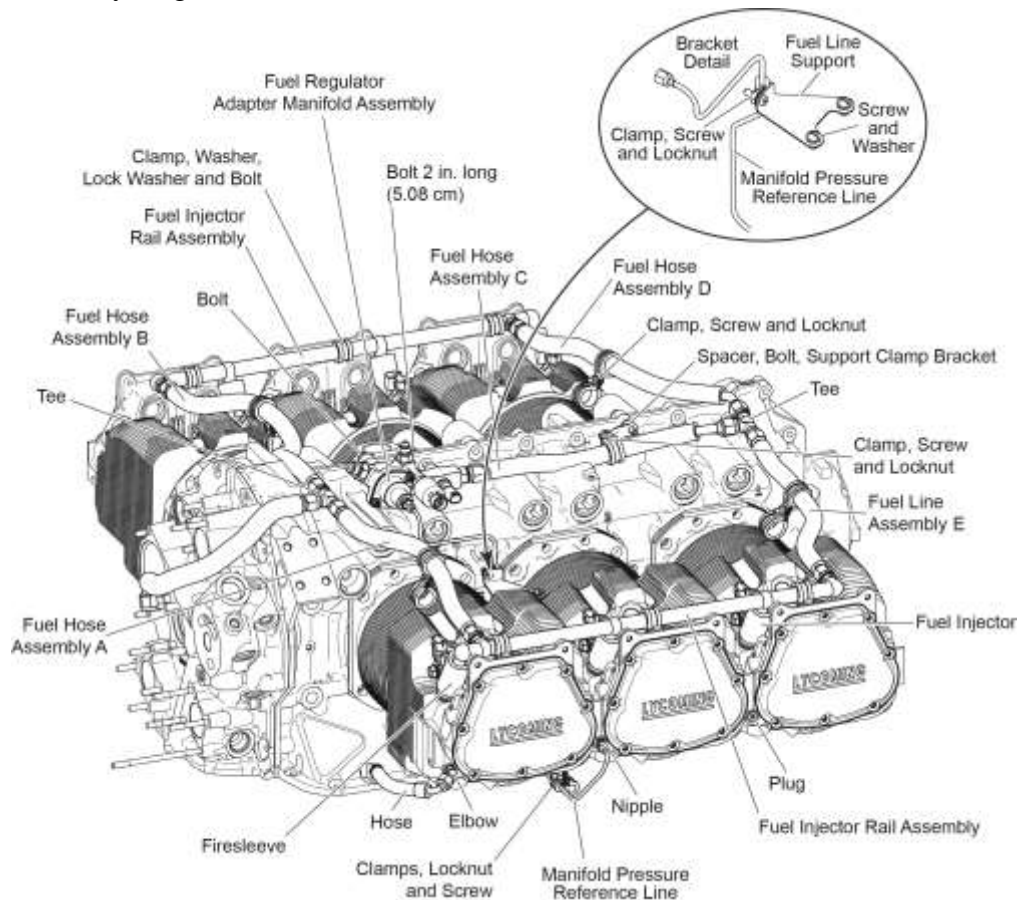

Figure 7
NOTICE: Fuel hoses are identified as A, B, C, D, and E in Figure 7
NOTICE: As shown in Figure 7, there are two fuel injector rail assemblies, one on each side of the engine. Each fuel injector rail assembly is attached to fuel hoses and the fuel injectors on the three engine cylinders on each side of the engine.
- (1) Remove the harness connector from all three fuel injectors on the affected fuel injector rail assembly.
- (2) Remove the screw and lock nut from each of the two clamps that attach the wiring harness to the fuel injector rail assembly. Discard the lock nuts.
- (3) Move the wiring harness so it does not interfere with fuel injector rail assembly removal.
- (4) Put a fuel collection container under the side of the engine where the fuel injector rail assembly (Figure 7) is to be removed.
- (5) Loosen the cap on the fuel pressure regulator bleed port to release pressure from the fuel hoses.
- (6) Disconnect the two fuel hoses (identified as A and E or B and D in Figure 7) from the fuel injector rail assembly coupling at each end of the fuel injector rail assembly to be removed.
- (6) Install the fuel injector rail with the fuel injectors installed (Figure 7) on the engine with the fuel injectors installed in the fuel injector adapters.
- (7) Torque the coupling on each end of the fuel injector rail in accordance with the Standard Torque Tables in the latest revision of the *Service Table of Limits - SSP-1776*.
- (8) Install the clamps on the fuel injector rail each with a bolt, washer, and new lock washer. Torque the bolts in accordance with the Standard Torque Tables in the latest revision of the *Service Table of Limits - SSP-1776*.
- (9) Connect the fuel hoses (A and E or B and D in Figure 7) to the fuel injector rail coupling at each end of the fuel injector rail. Torque in accordance with the Standard Torque Tables in the latest revision of the *Service Table of Limits - SSP-1776*.
- (10) Attach the each of the three fuel injector harness connectors to applicable fuel injectors.
- (11) Attach the wiring harness to the fuel injector rail with the two clamps, screws, and new lock nuts. Torque the lock nuts in accordance with the Standard Torque Tables in the latest revision of the *Service Table of Limits - SSP-1776*.
- (12) Install and tighten the bleed cap on the fuel pressure regulator bleed port.
- (13) Look for any fuel leaks. Identify and correct the cause of any fuel leaks. There must not be any leaks. All fuel connections must be secure and torqued in accordance with the Standard Torque Tables in the latest revision of the *Service Table of Limits - SSP-1776*.
- (14) If leaks or malfunctions were found and corrected, operate the engine again to make sure it is operating correctly and there is no leak anywhere.